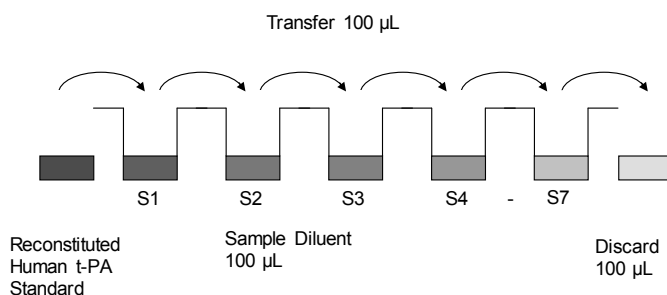

Fig. 6 Dilute standards - microwell plate
3. Standard dilution on the microwell plate (Alternatively the standard dilution can be prepared in tubes - see “External standard dilution” on page 3): Add 100 µL of Sample Diluent in duplicate to all standard wells. Pipette 100 µL of prepared standard (see Preparation of Standard “Human t-PA standard” on page 3, concentration = 2000 pg/mL) in duplicate into well A1 and A2 (see Table 1). Mix the contents of wells A1 and A2 by repeated aspiration and ejection (concentration of standard 1, S1 = 1000 pg/mL), and transfer 100 µL to wells B1 and B2, respectively (see Figure 6). Take care not to scratch the inner surface of the microwells. Continue this procedure 5 times, creating two rows of human t-PA standard dilutions ranging from 1000.0 to 15.6 pg/mL. Discard 100 µL of the contents from the last microwells (G1, G2) used.